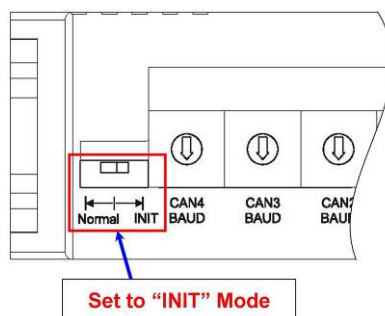

Figure 3-3 Set the I-2534 into the initial mode
Step1: Set the Normal / Initial mode switch to "INIT" position. The figure 3-3 shows the detail.